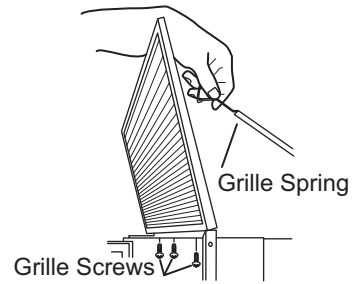

Figure 4
2. Place grille assembly on top main frame and hook grille spring(s) to grille hook(s) (See Figure 4).
3. Open unit door(s) and insert three #8 x 1-1/4" flat head screws up through main frame, into grille bracket (See Figure 4).